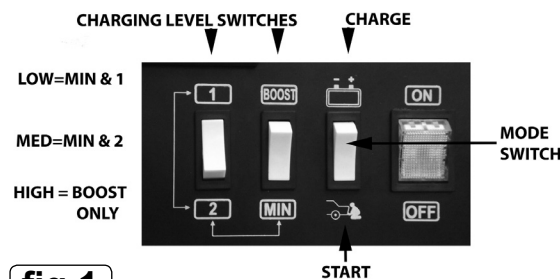

fig.1
- 4.2.3. Set the rate of charge to that required by using the charge level switches as shown in fig. 1. The MIN & BOOST switch relates to charge levels only. When the charge level is set to BOOST the switch marked 1 & 2 is over-ridden.
- 4.3.1. Connect the charger to the mains power supply and switch on using front panel mounted ON / OFF switch (fig. 1).
- 4.3.3. If a boost charge is required ensure that an initial charge has built up first before selecting boost on the front panel (fig.1).
- 5.5. Starting will be enhanced if the battery is given a short charge prior to turning the ignition switch. This must always be done with the selector switch (fig.1) set to the charge position and NOT to Boost. Plug starter/charger into mains power, select a low rate of charge and turn on. Allow the battery to charge for 2-3 minutes.
- 5.6. Move the starter/charger switch to the START position (fig.1). Turn the vehicle ignition on and crank the engine for a MAXIMUM of 3 seconds. If the vehicle does not start, wait for 2 minutes and repeat for a MAXIMUM of 5 cycles then allow 30 minutes rest.